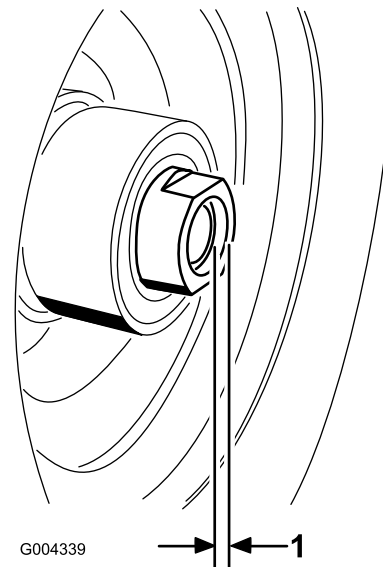

Figure 29
- If both spacer nuts were removed from the axle, apply thread locking adhesive to the spacer nut. Install the spacer nuts onto the axle leaving an 1/8 inch (3mm) of the nut past the axle (Figure 29).
- Torque the spacer nut to 75-80 in-lb (8-9 N·m) then loosen it and torque it to 20-25 in-lb (2-3 N·m). Make sure the axle does not extend past either nut (Figure 29).